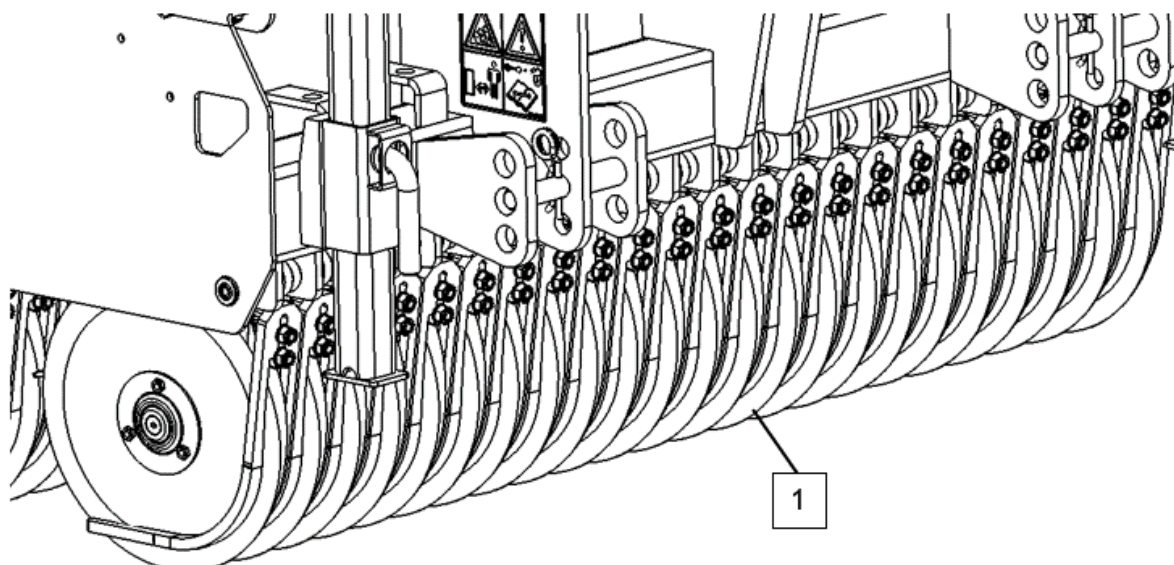

Fig.7-2
- Check the sowing elements (1) for damage and repair if necessary. (Fig.7-2)